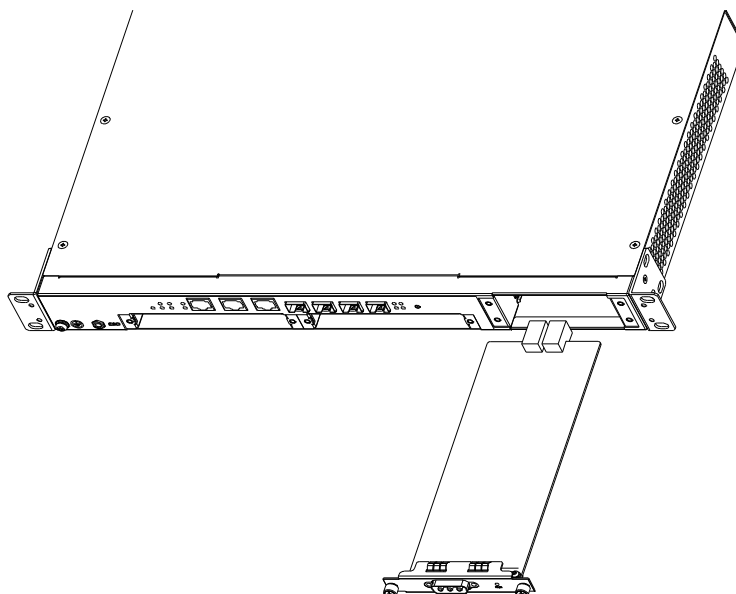

Figure 6-1 DC Power Supply Module Installation Diagram
- 4 Knead the front panel of a new power module at both left and right sides, insert PON card into its slot. As shown in figure 6-1 below